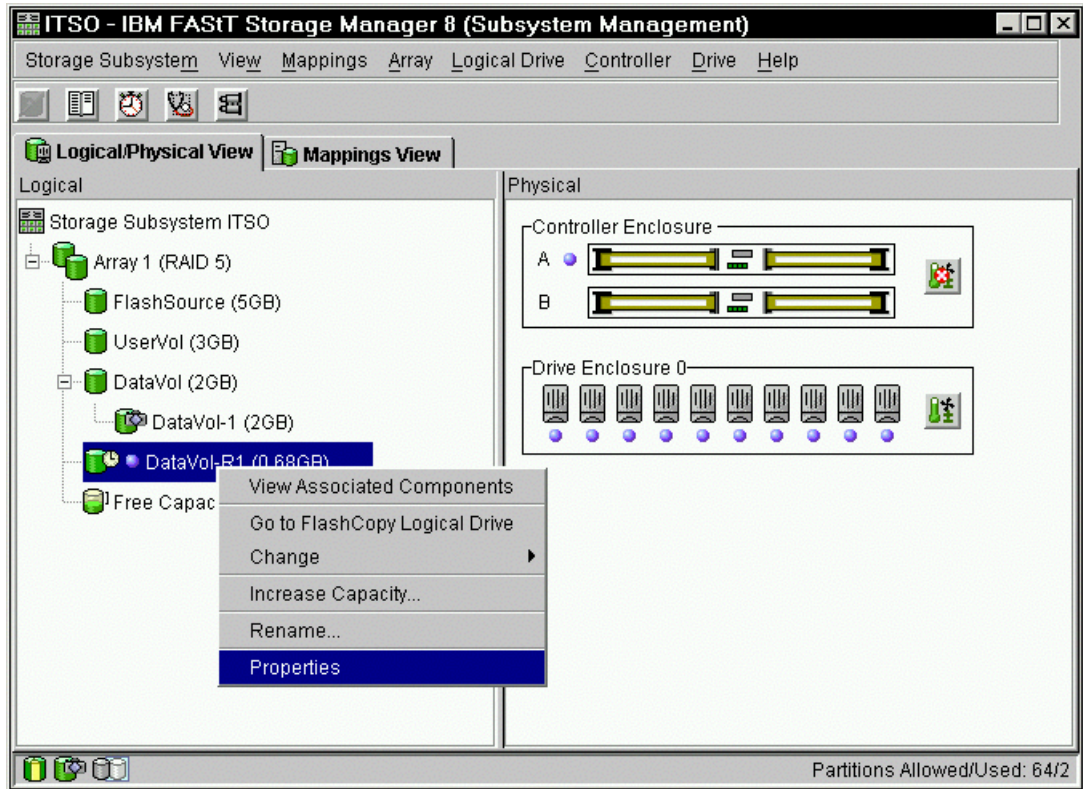

Figure 5-24 Repository logical drive properties
2. Click **Logical Drive-> Properties**. Or you can right-click and select **Properties** as shown in Figure 5-24.